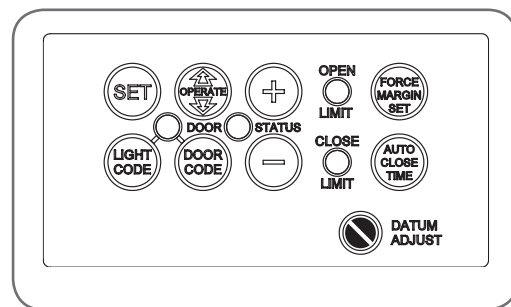

fig 28
2. Press and hold the Door Code button (**Fig. 28**).